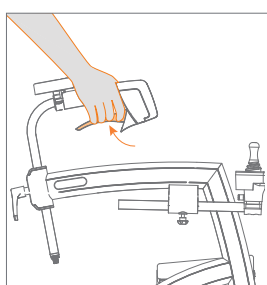

Figure 66: Braking.
- Squeeze the brake handles for braking (**Figure 66**).